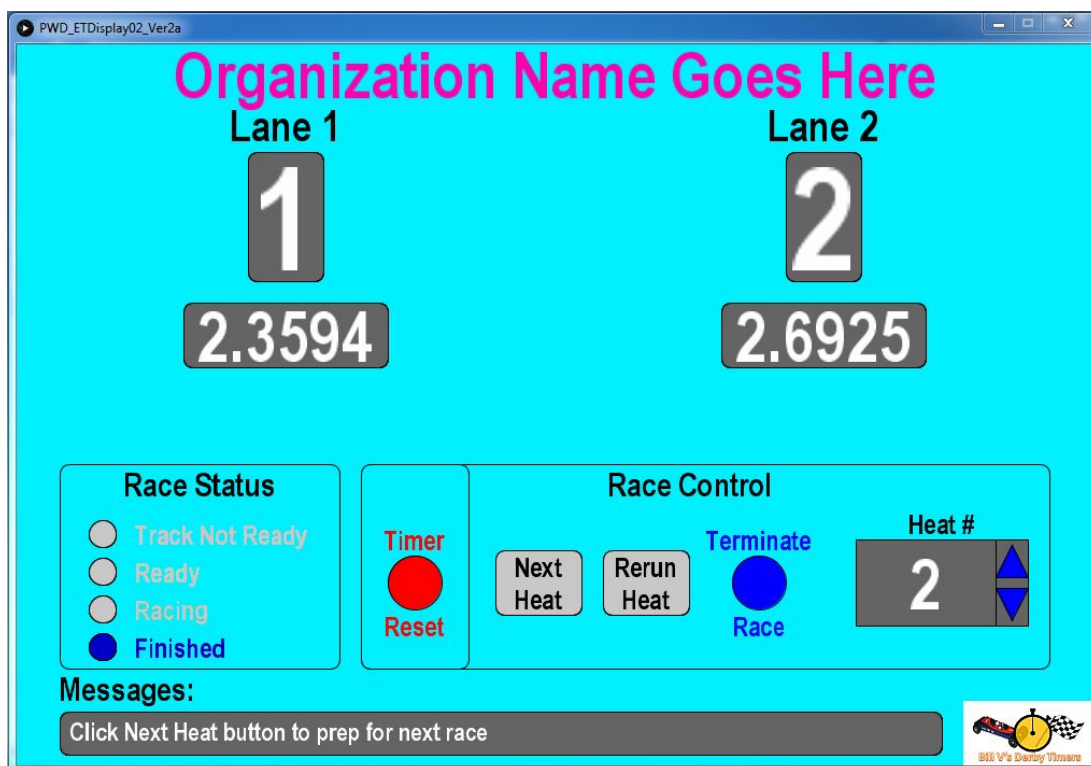

Figure 4 – Race Finished Example
7. Wait for all cars to cross the finish line or when 10 seconds has elapsed, whichever occurs first (See Fig. 4).